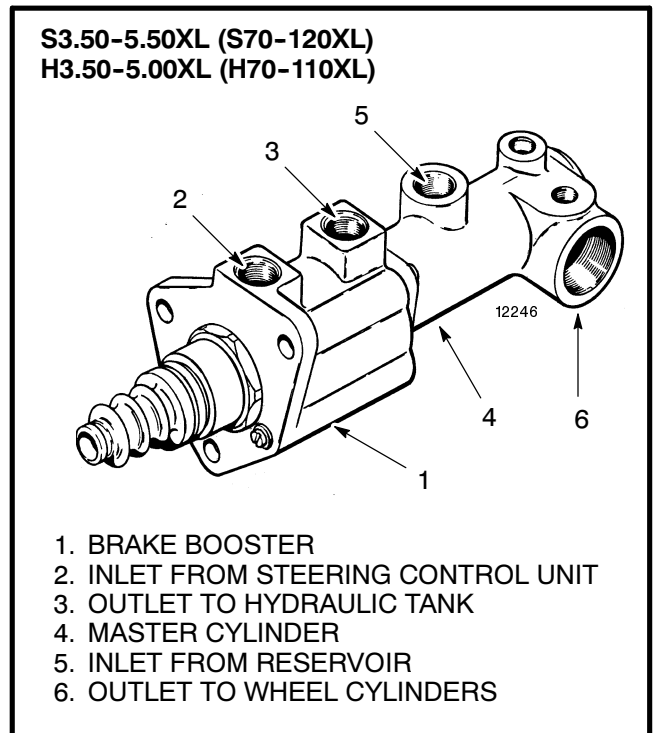

FIGURE 1. BRAKE BOOSTER AND MASTER CYLINDER
## BRAKE BOOSTER AND MASTER CYLINDER (See FIGURE 1. and FIGURE 2.)
**Installation (See FIGURE 1.)**